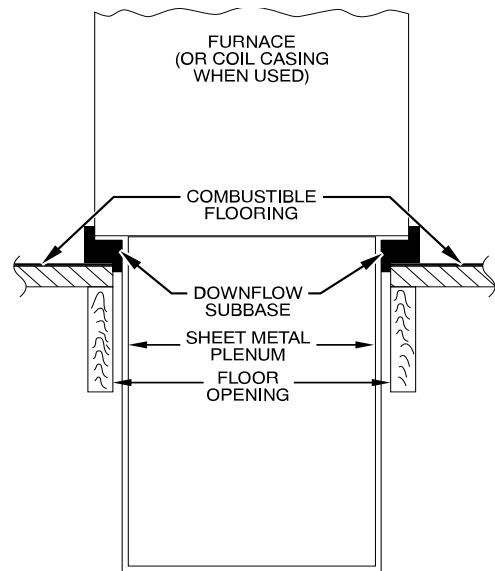
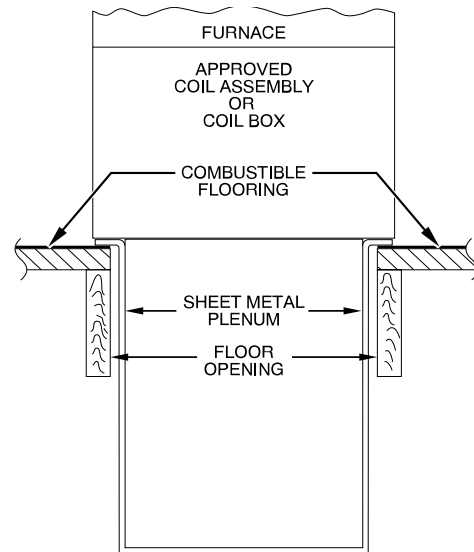

Fig. 12 – Furnace, Plenum, and Subbase Installed on a
Fig. 13 – Furnace, Plenum, and Coil Assembly or Coil Box Installed on a Combustible Floor
- If downflow subbase is used, install as shown in Fig. 12. If manufacturer's cased evaporator coil or coil casing is used, install as shown in see Fig. 13.